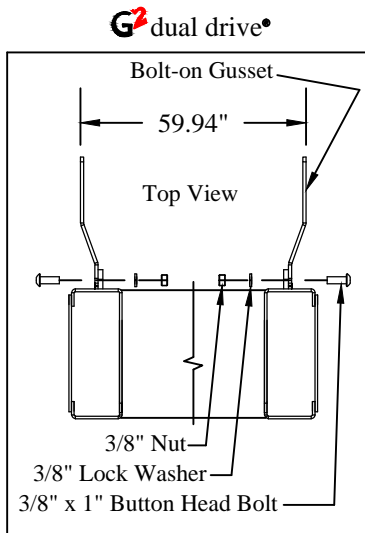

Figure 4: Top view of liftgate bolt-on gussets.
1. Install the eight (8) 3/8" x 1" button head bolts, lock washers, and nuts in the position shown for your configuration (Figure 4).